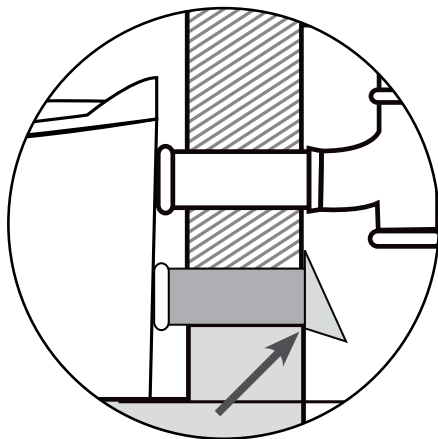

fig. 4
4. After determining the correct length and location of the inlet air pipe, cut the pipe on the outside. NOTE: Cut the pipe flush with the external wall, see fig. 4 The inlet air pipe should be sealed with a suitable sealant, such as silicone, Sikaflex, etc.